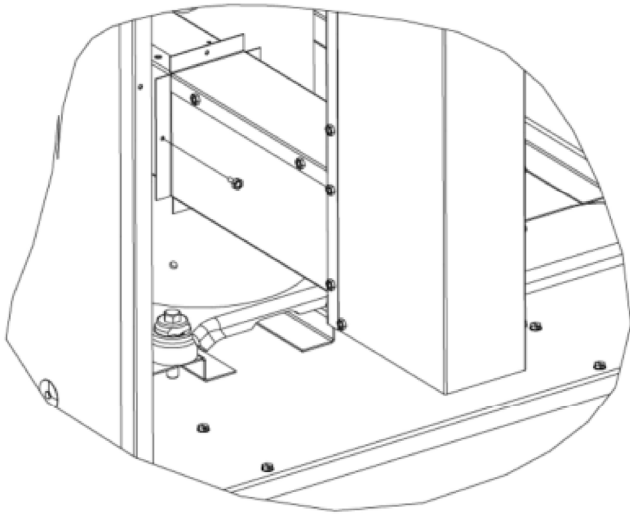
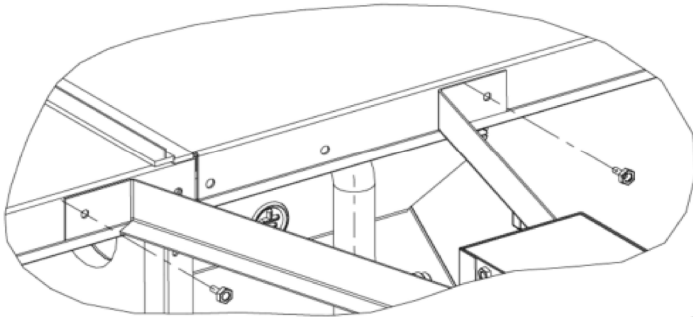

Figure 2
Figure 3
Install Flue Extension as shown in Figure 2 and Figure 3:
3. Secure the short side of the assembly over the vent outlet against the panel, see Figure 2. Use the provided zip screw to secure the left flange against the panel.
4. Then, remove the screw that is blocking the left side of the top bracket and secure the top bracket to the top panel flange with the zip screws provided. See Figure 3. Use existing hole on the left side of the bracket.